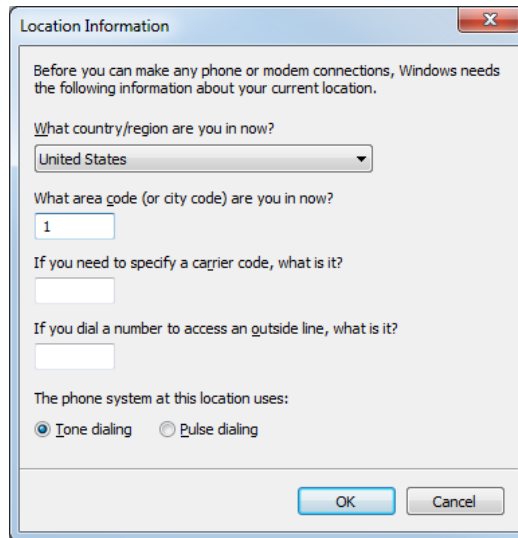
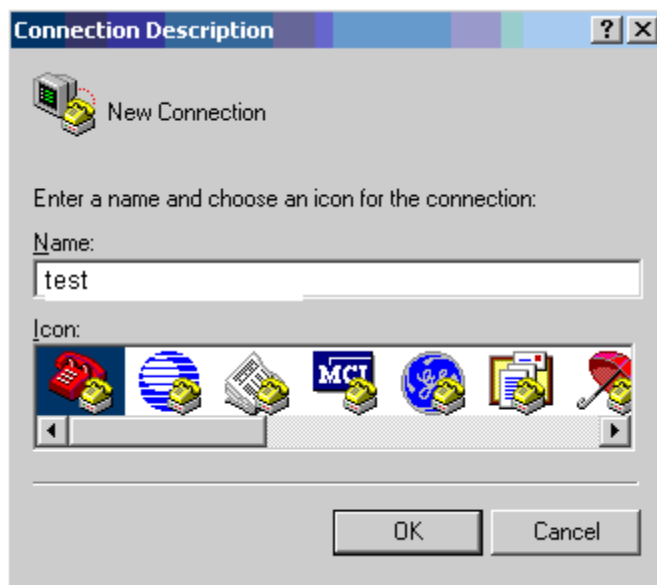

Figure 4-3 “Location information” interface
Figure 4-5 “Connection Description” interface
- Step 1: Enable the PC (or laptop), select **Start > All Programs > Accessories > Communication > HyperTerminal**, and click  to set up the new connection as shown in Figure 4-5. If it is the first time to set the Hyperterminal, the system displays the interface of **Location Information**, as shown in Figure 4-3. Fill in according to the red indication in the figure and click **OK**.